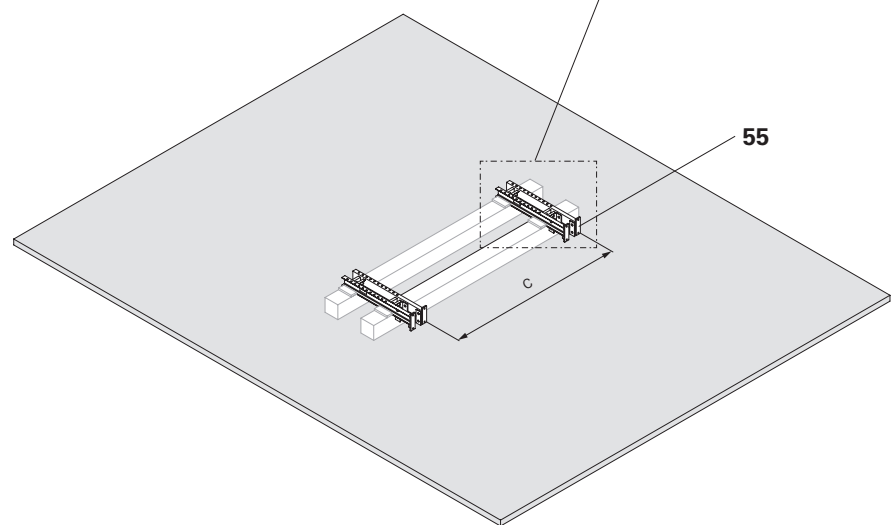

Fig. B10.01
1. Set the Finishing Platform Beam 1365 ACS-G (55) down on the squared timbers while observing the console bracket spacing. (Fig. B10.01 + B10.01a)